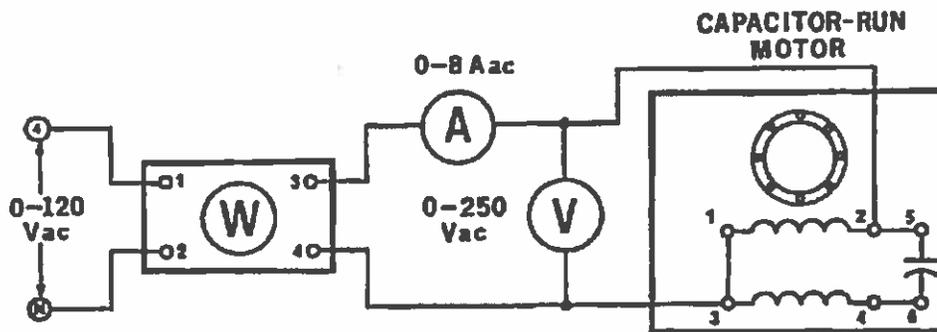

Figure 35-1.
5. Using your Capacitor-Run Motor, Power Supply, Single-Phase Wattmeter, Electrodyamometer, AC Ammeter and AC Voltmeter, connect the circuit shown in Figure 35-1.